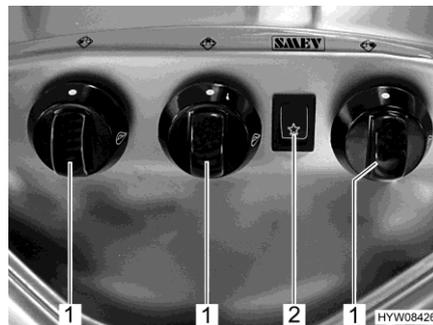

Fig. 137 Operating controls (gas cooker)
- Turn the control knob (Fig. 137,1) on the burner you wish to use to the ignition position (large flame).
- Press rocker switch (Fig. 137,2). Ignition sparks are generated at the burner.